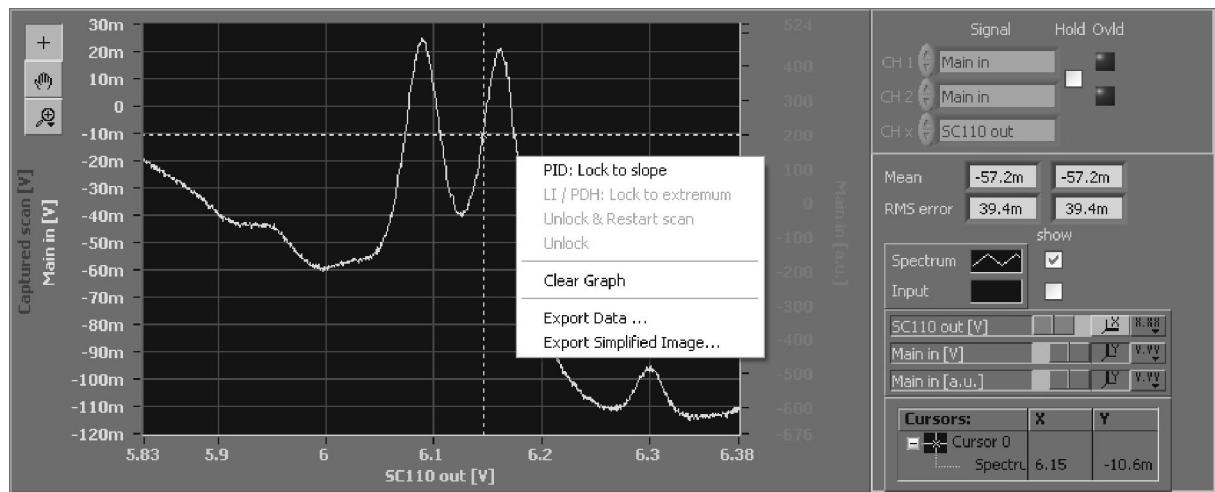
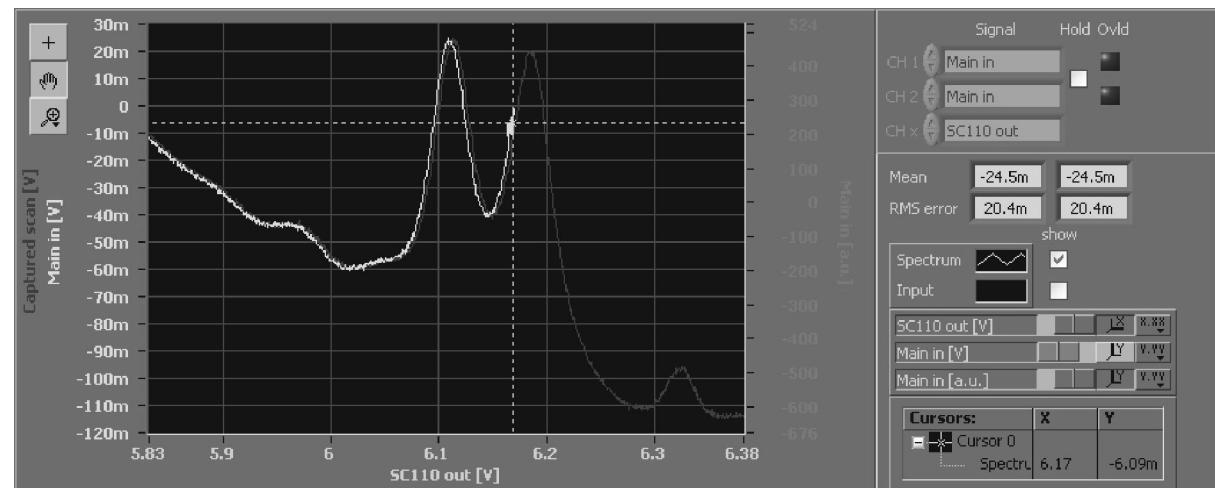

Figure 43 Initiating the AutoLock to a Slope of the Absorption Signal
Figure 44 Autolock Display just after the Lock is engaged (PID: lock to slope)
19. Before the lock is initiated, the lock point has to be selected by dragging the crosshairs in the graph of the AutoLock display to the desired position. When you drag the vertical line in the horizontal direction the crosshairs will follow the current trace. Once chosen, the crosshairs will automatically track the lock point while the laser might slowly drift. To engage the lock, click the right mouse button and choose *PID: Lock to slope* from the context menu (see Figure 43). Starting with the next trigger the trace captured is displayed in a different color (here yellow) while the held trace is visible (here blue¹²). Once the lock point is reached the trace stops and the lock is activated. Figure 44 shows the AutoLock display some seconds after the lock has been triggered.